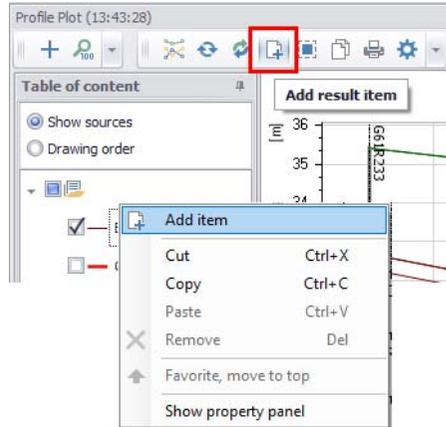

Figure 19.35 The 'Add result item' tool on the Profile Plot window
- Add simulation results to a profile plot using the 'Add result item' option on the Profile Plot window (Figure 19.35.). The option is also offered from the local context menu (i.e. right-click) on the left panel of the profile plot form.